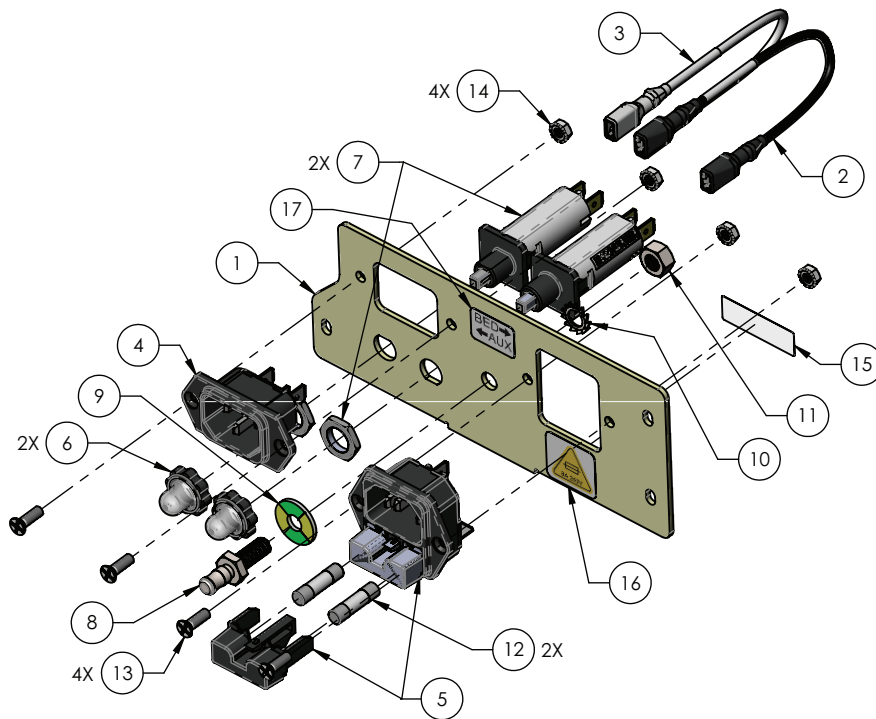

Figure 6 – Fuse replacement
6. Squeeze the fuse holder lock tab to unlock the fuse holder (5) (Figure 6).
7. Remove the fuse holder (5) and replace the needed fuse (12) (Figure 6).